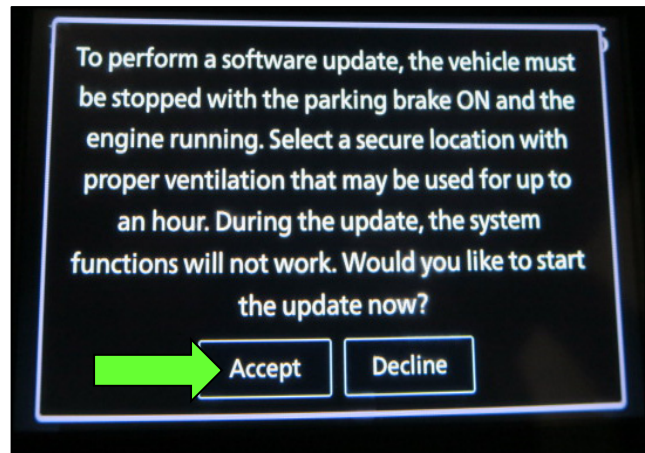

Figure 16
23. Review the software update requirements, shown in Figure 16, and then select **Accept** to start the reprogramming.